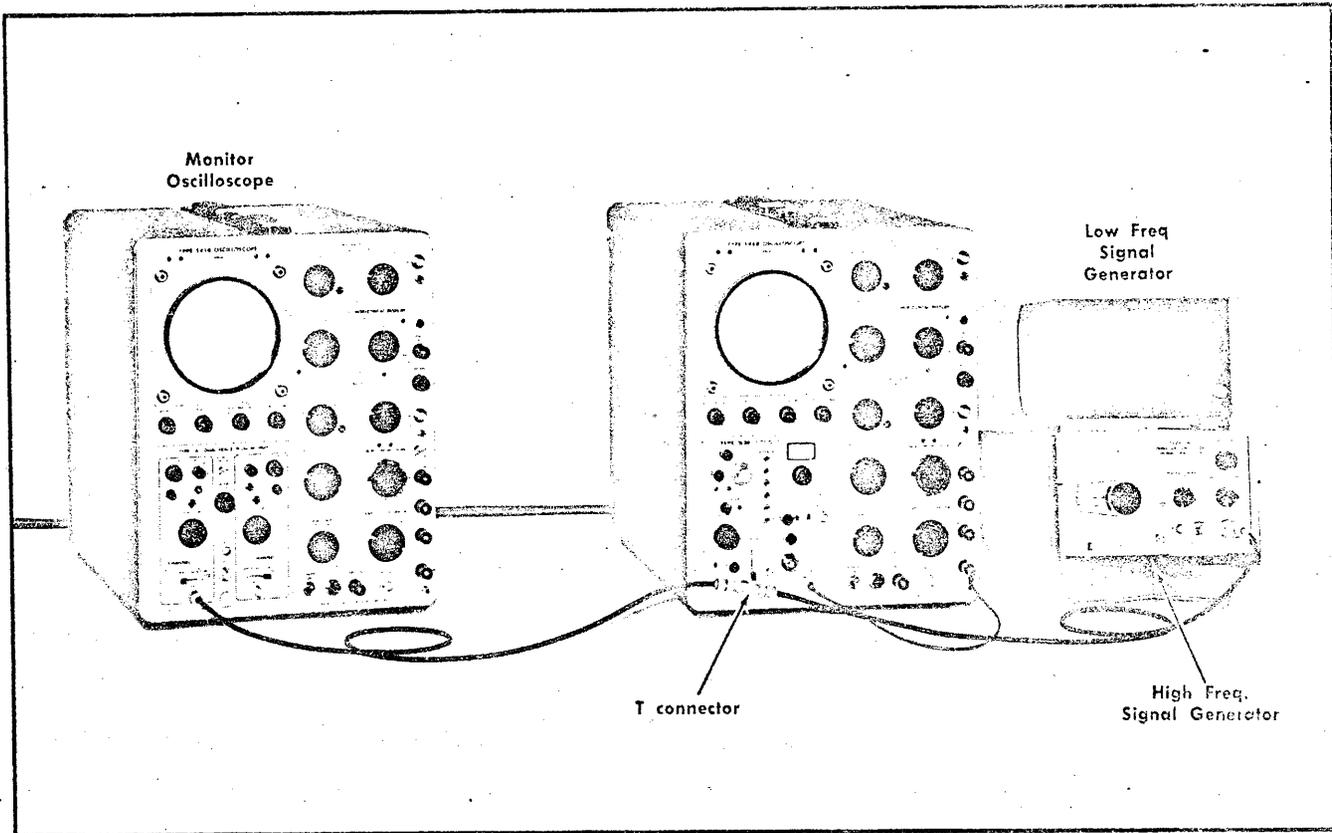

Fig. 6-22. Equipment setup to check video bandpass (step 14).
- a. Equipment setup is shown in Fig. 6-22.